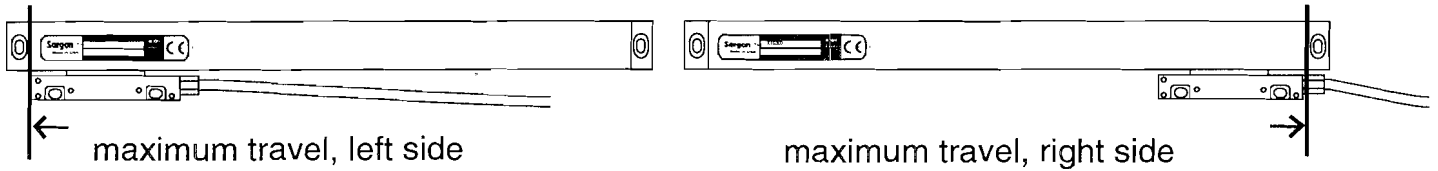

figure 5. maximum miniscale travel
- After installation, verify that it is not possible to overtravel the miniscale. See Figure 5.
- d. Release the table lock and move the X axis table to its two extreme positions while monitoring the encoder box travel. VERIFY THAT THE MINISCALE CANNOT BE OVERTRAVELED! See Figure 5.
VERIFY THAT THE MINISCALE CANNOT BE OVERTRAVELED. See Figure 5.